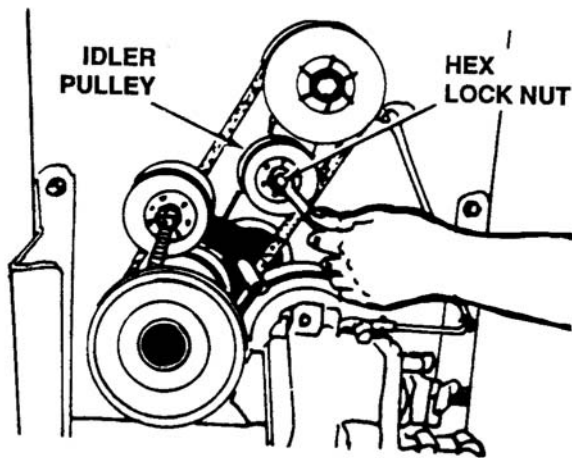

Figure 4-23. Idler Pulley Hex Lock Nut
9. Remove the idler pulley by removing the hex lock nut. See Figure 4-23.